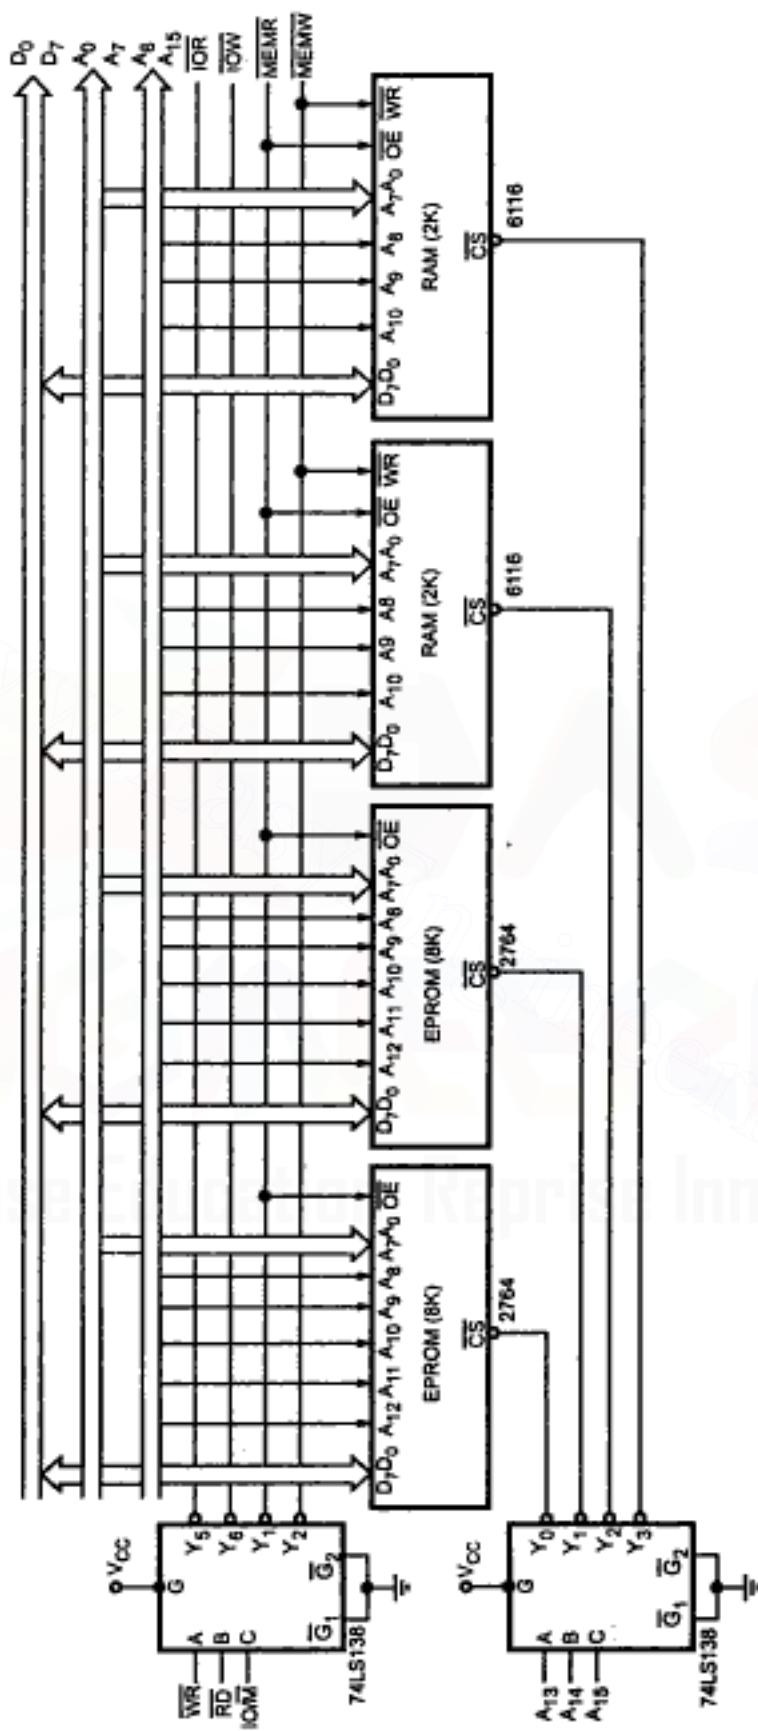

Fig. 6.20 Memory system using two (8K x 8) EPROMs and two (2K x 8) RAMs
**Solution :** Fig. 6.20 shows the desired memory system using two (8K × 8) EPROM and two (2K × 8) RAMs. EPROM memory is 8K, so it requires 13 address lines (A12 - A0) whereas RAM memory is 2K, so it requires 11 address lines (A10 - A0). The remaining higher address lines (A15 - A13) are used to generate chip-select ( $\overline{CS}$ ) signals. Table 6.7 shows the memory map for the designed circuit. (See Fig. 6.20 on next page)